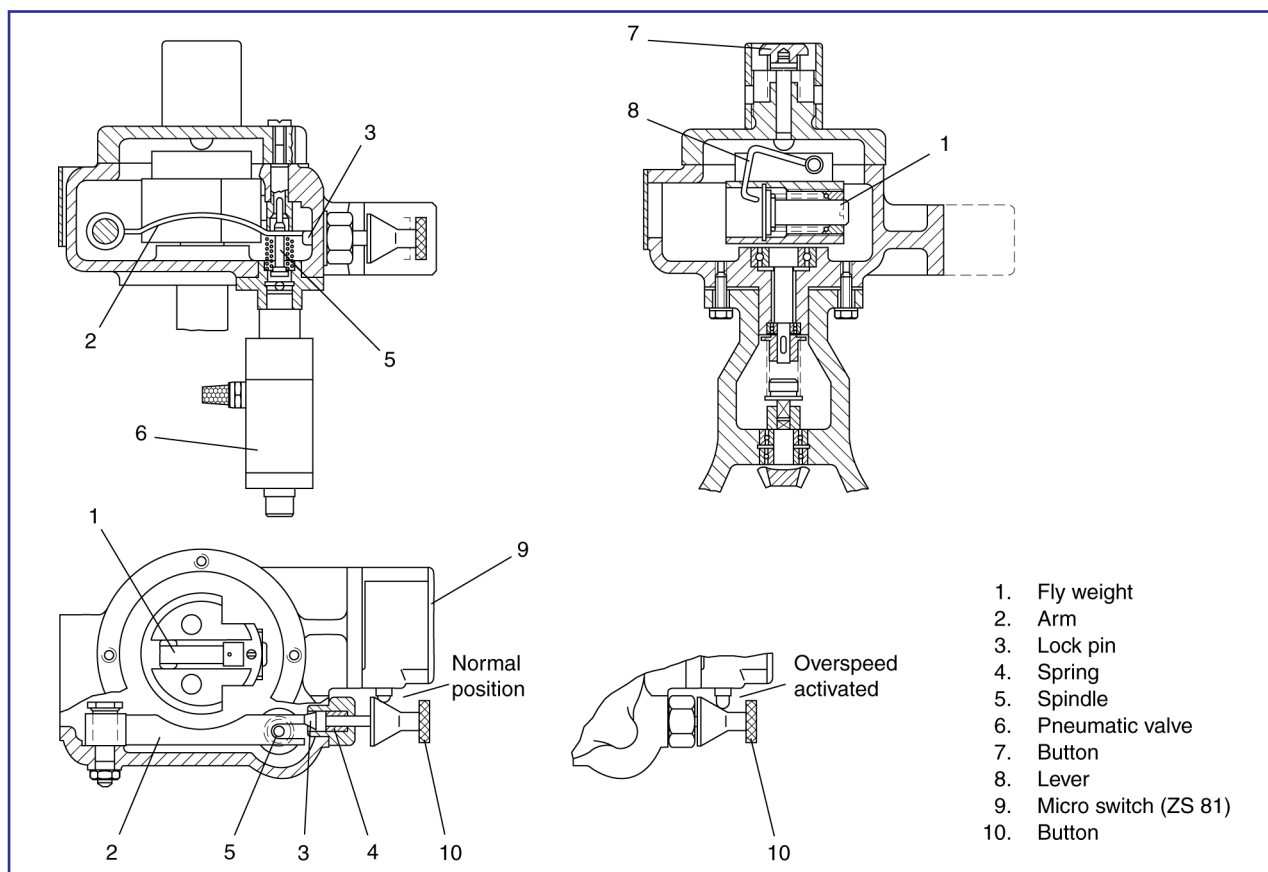

Figure 1: Mechanical overspeed.
If the pre-set tripping speed is exceeded, the springloaded fly weight (1), *see fig 1*, will move outwards and press down the arm (2).